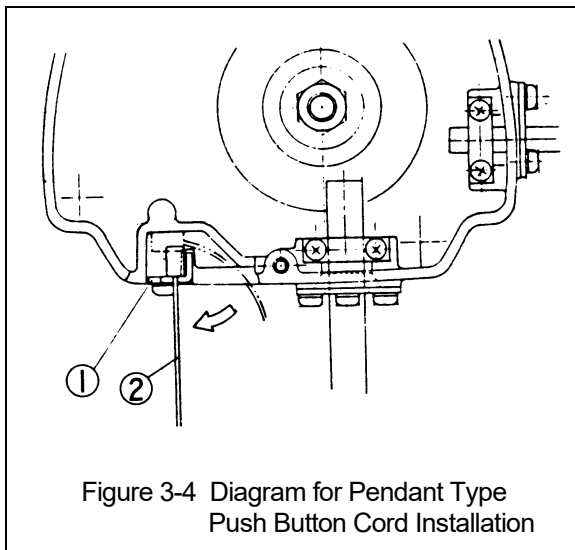
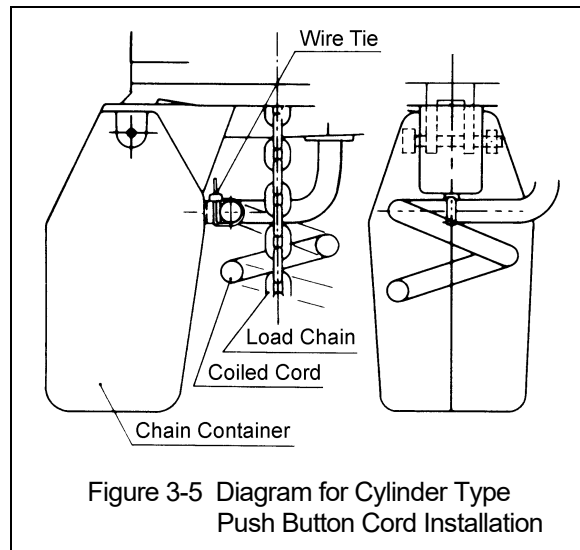

Figure 3-4 Diagram for Pendant Type Push Button Cord Installation
Figure 3-5 Diagram for Cylinder Type Push Button Cord Installation
- Refer to Figure 3-4.
- Attach the Strain Relief Wire (2) to Cable Support L (1).
- 2.) Dual Speed Cylinder Model (DA)
- Refer to Figure 3-5.